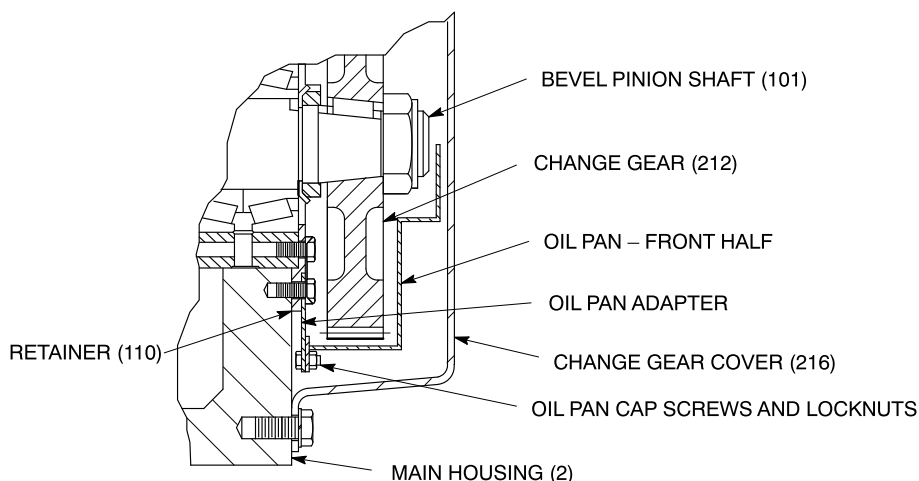

FIGURE 2 – OIL PAN DETAIL
- a . Remove the change gear cover (216) and gasket (215).
- h . Some units are furnished with an integral shaft and pinion (209) (pinion teeth machined directly on shaft) for the higher ratios. Remove shaft and pinion (209) as outlined in Section 3 to change speeds.
- 2.4 Unit size 77–87 models require an oil pan as shown in Figure 2 for the total ratio and input speed combinations designated by an "X" in Table 1. If the unit is dismantled, make sure the oil pan is re-installed.
- a . If converting to a speed and ratio which no longer requires an oil pan, remove the front half of the pan. The adapter can remain assembled to the retainer (110).